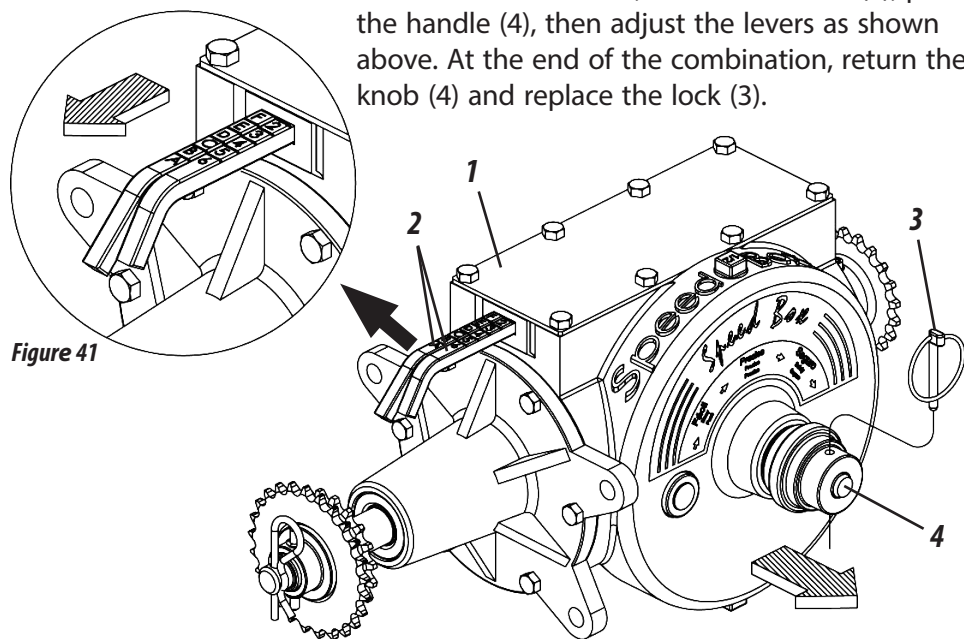

Figure 41
SPEED BOX (FIGURE 41)
1- Select the desired quantity in the tables and check the corresponding combination on the levers (2). **Example:** Position **F2** In the table, indicates that the lever with letters should be in position "**F**" and the lever with numbers must be in position "**2**", as shown in figure 41